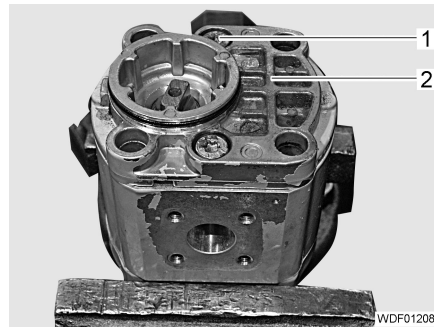

Fig. 155 Flange attachment
- Unscrew the 2 screws (Fig. 155,1).
- Carefully rotate the pump 180° and carefully tighten the flange (Fig. 155,2).